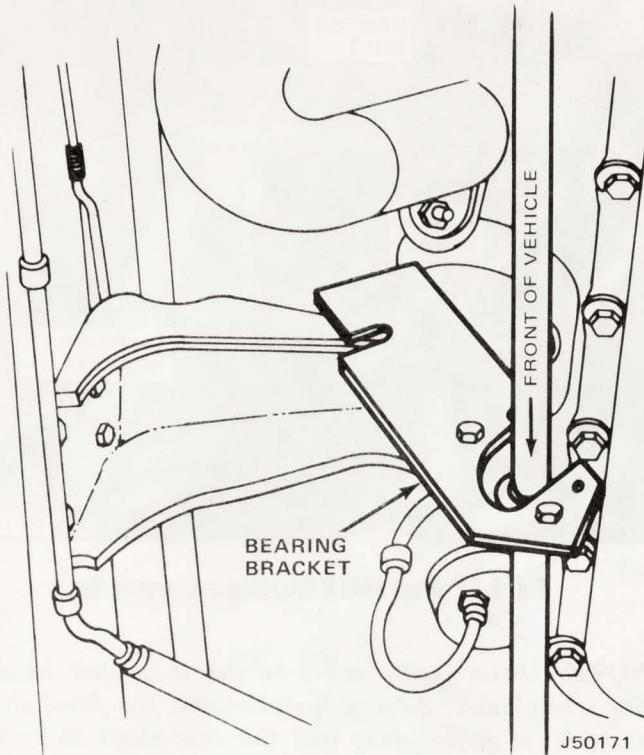

Fig. 5-13 Bearing Bracket Installation—V-8 Engine
(1) Position correct hanger bearing bracket with bearing to rear (fig. 5-10). Install universal joint on winch input shaft with key in place (fig. 5-13).